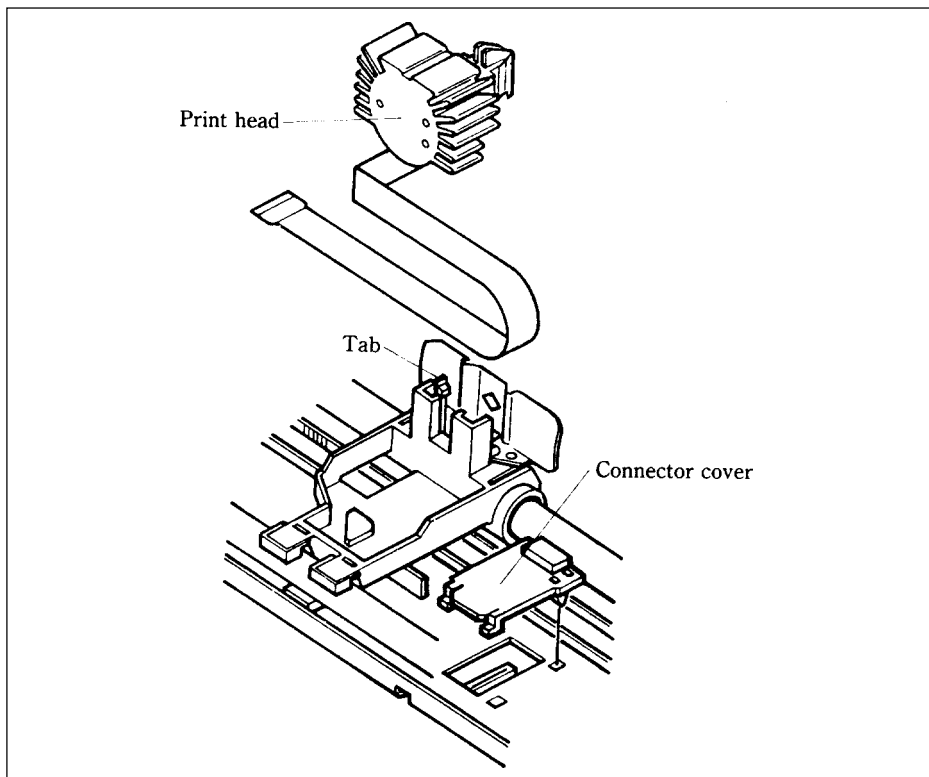

Figure 3-4. Replacement of the print head is simple.
2. Remove the print head left along the carriage, until you can see the connector cover. Remove the cover from the printer frame; for details, see Figure 3-4.